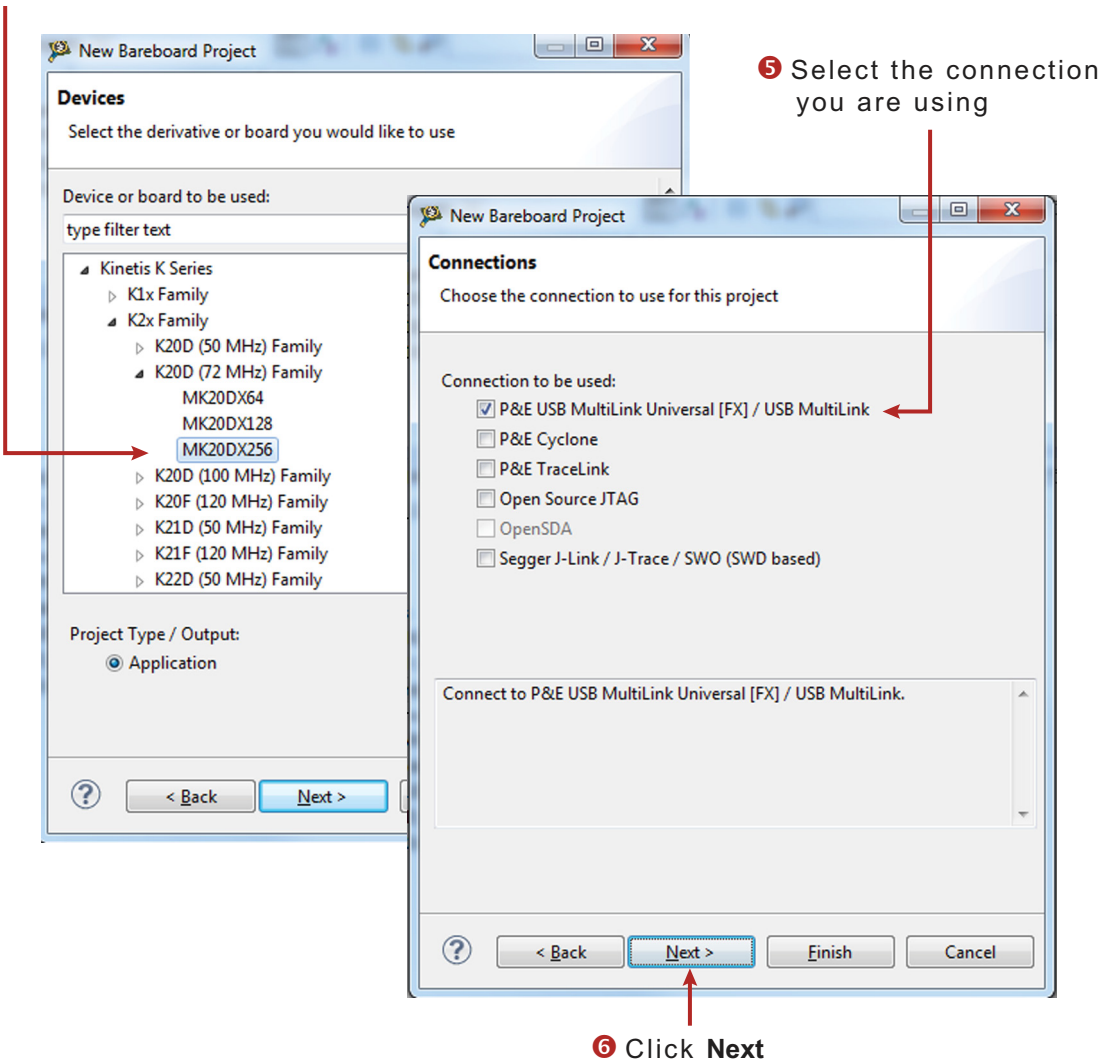

Figure 33. Selecting a device and a connection
2. In the **Devices** dialog box, select the MCU class your project is using in the MCU board (In Figure 33, MK20DX256 has been selected). Then click **Next**.
3. In the **Connections** dialog box, select the type of connection your project uses. (In Figure 33 P&E USB MultiLink Universal [FX]/USB MultiLink has been selected). Then click **Next**.